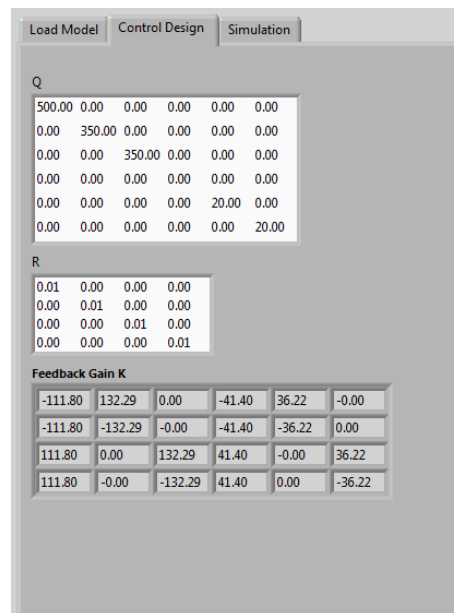

Figure 3.3: Control gain generated using LQR for 3 DOF Hover system
- Click on the *Control Design* tab to generate your control gain based on LQR. Sample gain generated is shown in Figure 3.3. You can change the Q and R weighting matrices to suit